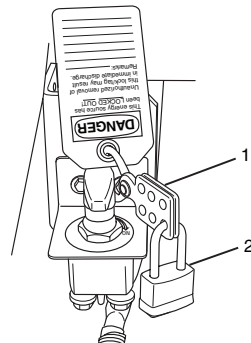

Figure 4
2. Install the safety lockout device ring (Figure 4, Item 1) through the holes on the battery disconnect switch and the bracket.
3. Install a padlock (Figure 4, Item 2) onto the safety lockout device ring, lock it, and put the key in your pocket. If more than one person is working on the vehicle, each person must install his or her own padlock.